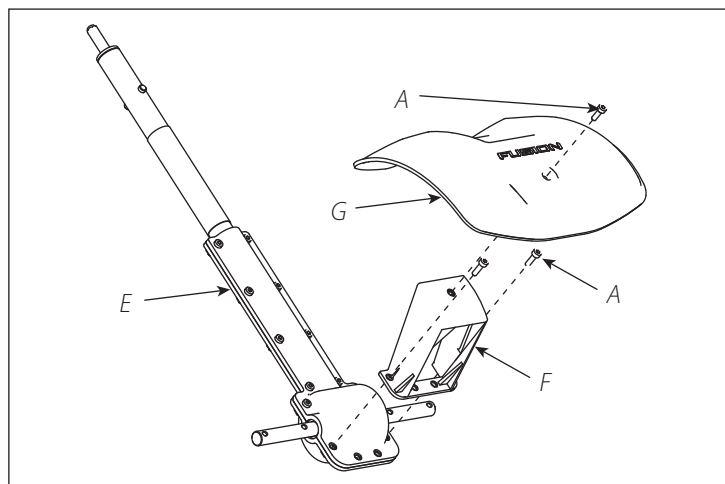

FIGURE 2
2. Assemble tine shield bracket (F) to transmission (E) with two bolts (A) and using L-wrench (B), provided in hardware parts bag. **SEE FIGURE 2**
3. Assemble tine shield (G) to transmission assembly with bolt (A) using L-wrench (B). **SEE FIGURE 2**